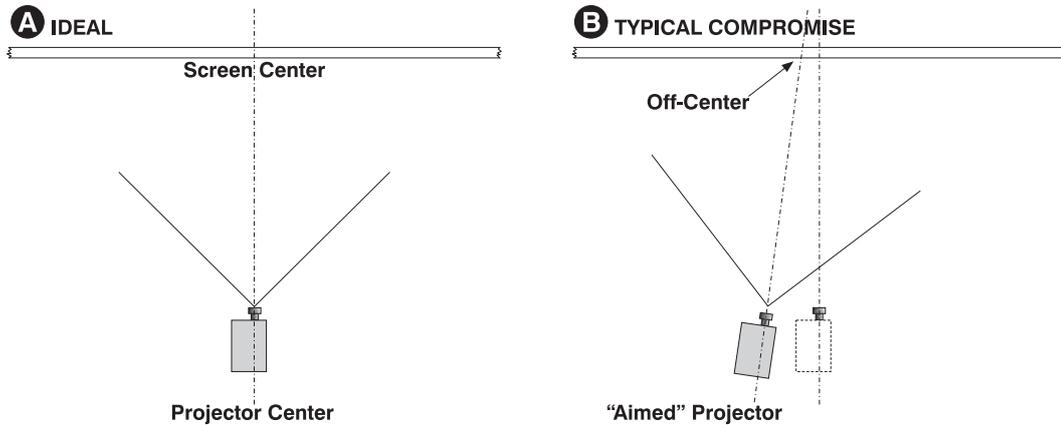

Figure 2-1 Position the Projector
2. Position the projector at an appropriate throw distance (projector-to-screen distance) and vertical position. Ideally, center the projector with the theatre screen. If competing for space with an already present film projector, aim the projector slightly off-center as shown in **Figure 2-1**. This will slightly increase side keystoneing, but will minimize the horizontal lens offset required.